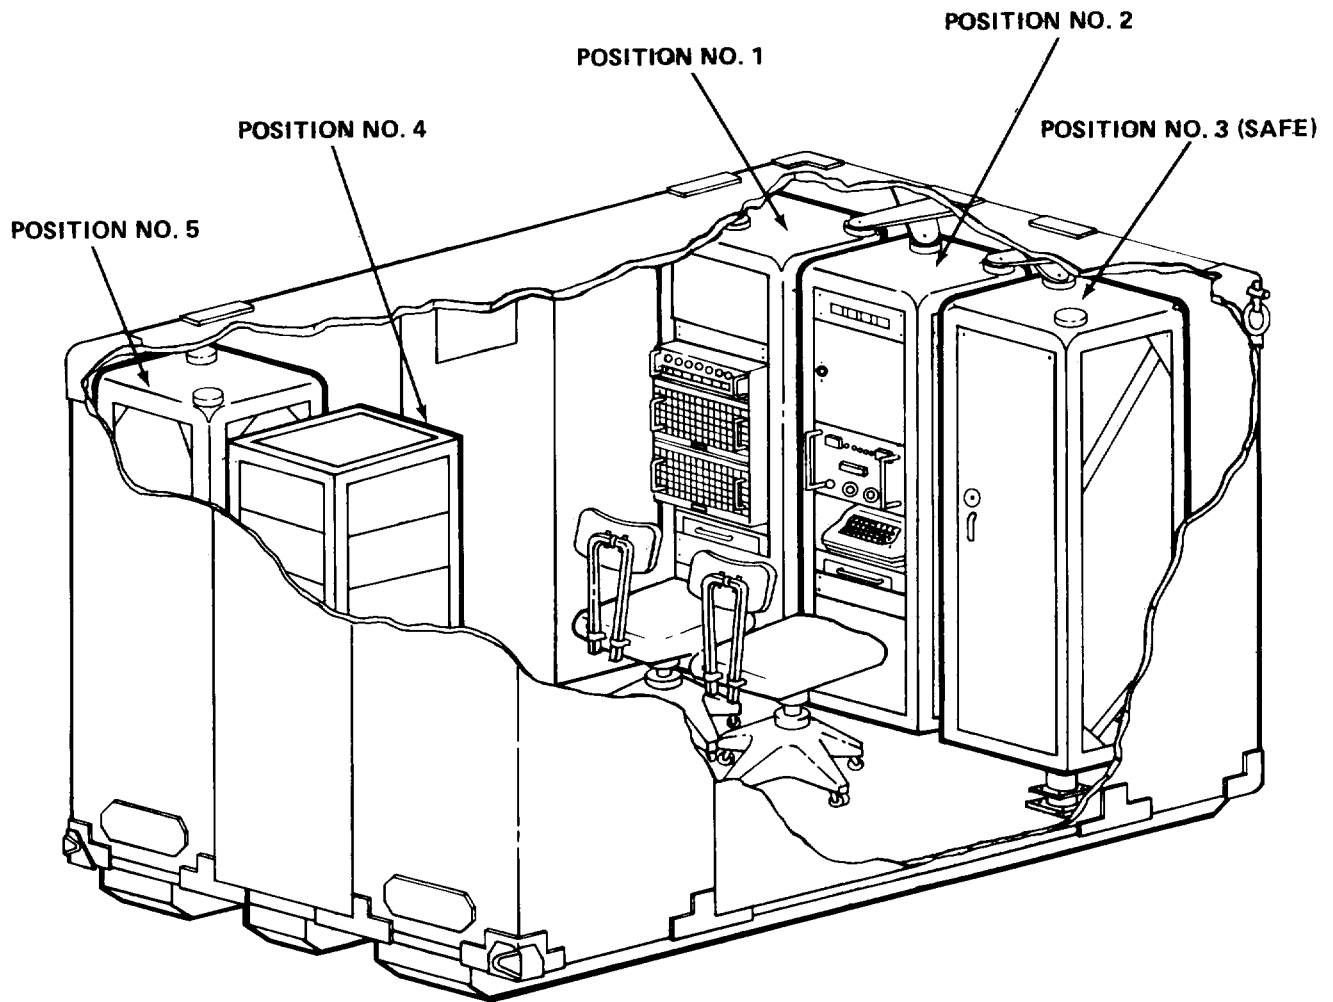

Figure 1-2. Operations Control Central AN/TSQ-78, Equipment Positions
a. General. Descriptions of the shelter, equipment racks and cable assemblies are contained in paragraphs (1), (2), and (3) below, except that reference shall be made to applicable unit manuals for complete descriptive data.
(1) *Electrical Equipment Shelter S-389/MSA-34.* Operations Control Central AN/TSQ-78 consists of five equipment positions (figure 1-2) housed in a transportable Electrical Equipment Shelter S-389/MSA-34. The shelter can be moved from site-to-site and quickly placed in operation. The shelter has been modified to accommodate the electrical racks and equipment necessary for AN/TSQ-78 operations. Modifications include rack stabilizer brackets, chair tiedown sockets, and a signal station intercom pass thru.